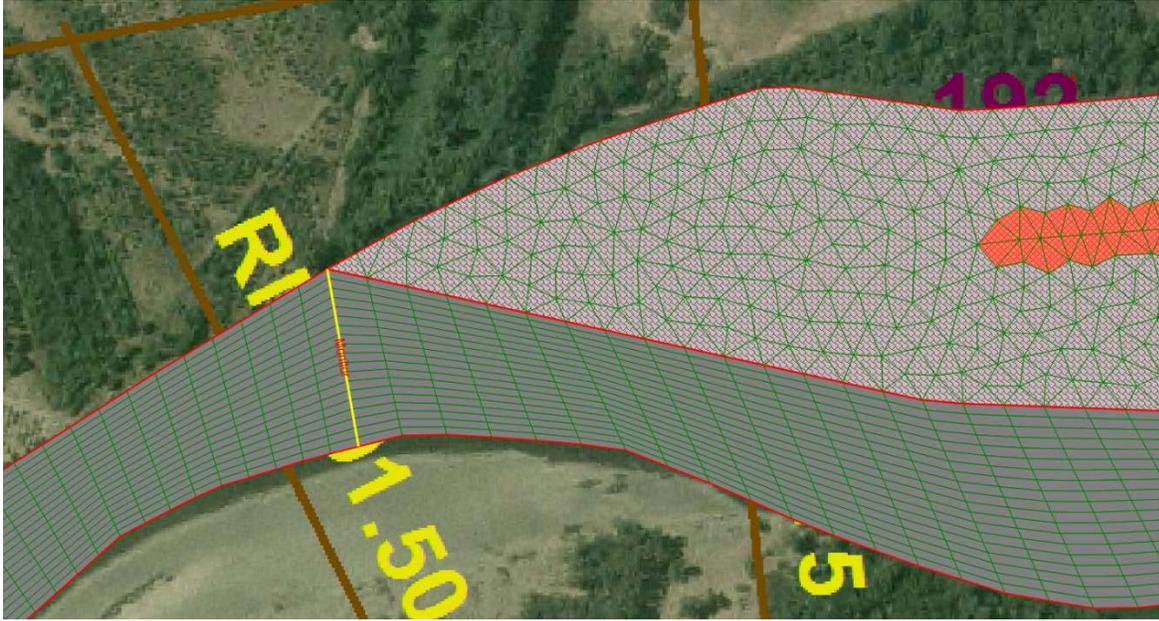

Figure 5-16. Monitoring line.
Step 4. Move the map to the downstream end of the point bar, click the add monitor line button  in the Boundary Condition Line Module toolbar, click the vertex at one side of the channel and double-click the vertex of the other side of the channel. Give the Monitoring Line the name “Monitor” when prompted (Figure 5-16).